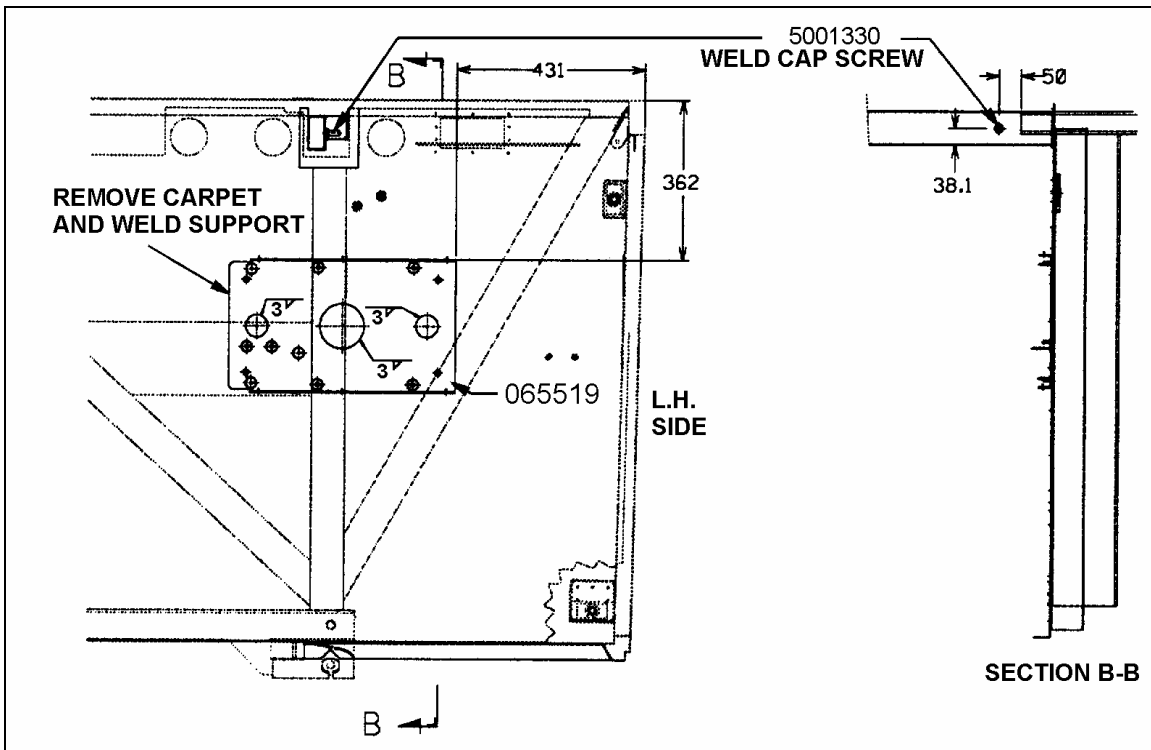

FIGURE 6
3. Remove a portion of carpet from partition wall if necessary and weld support (065519) onto baggage compartment rear partition wall as per instructions in figure 6. Refer to pages 2 and 3 for welding specifications.
4. Weld cap screw head (5001330) onto structural tube as per figure 6.